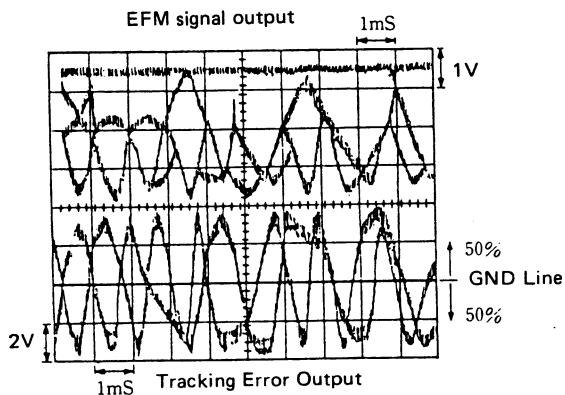

Fig. 3.7
- (6) Observe the tracking error waveforms (Fig. 3.7) and adjust VR102 so that the GND line is positioned at exactly half the waveform P-P value.
- (7) Turn the power switch off, disconnect the oscilloscope, TP401 (+5V) and TP402 (MPU Reset terminal), and set VR103 to the mechanical center.